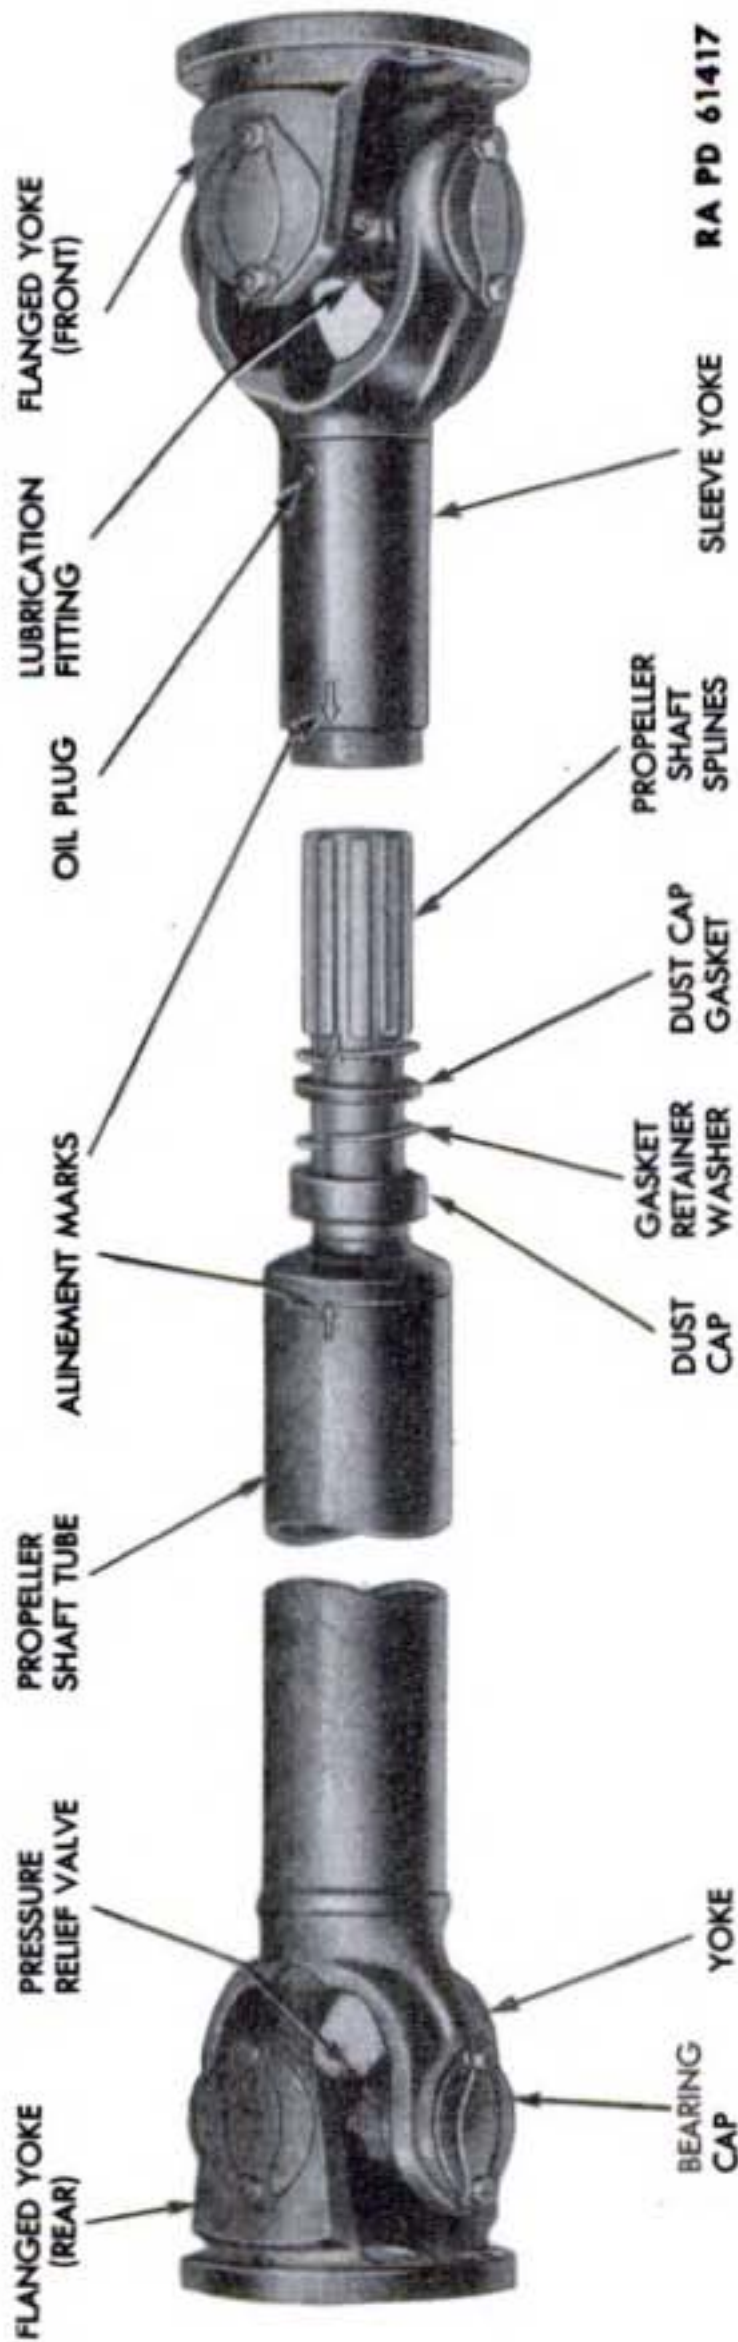
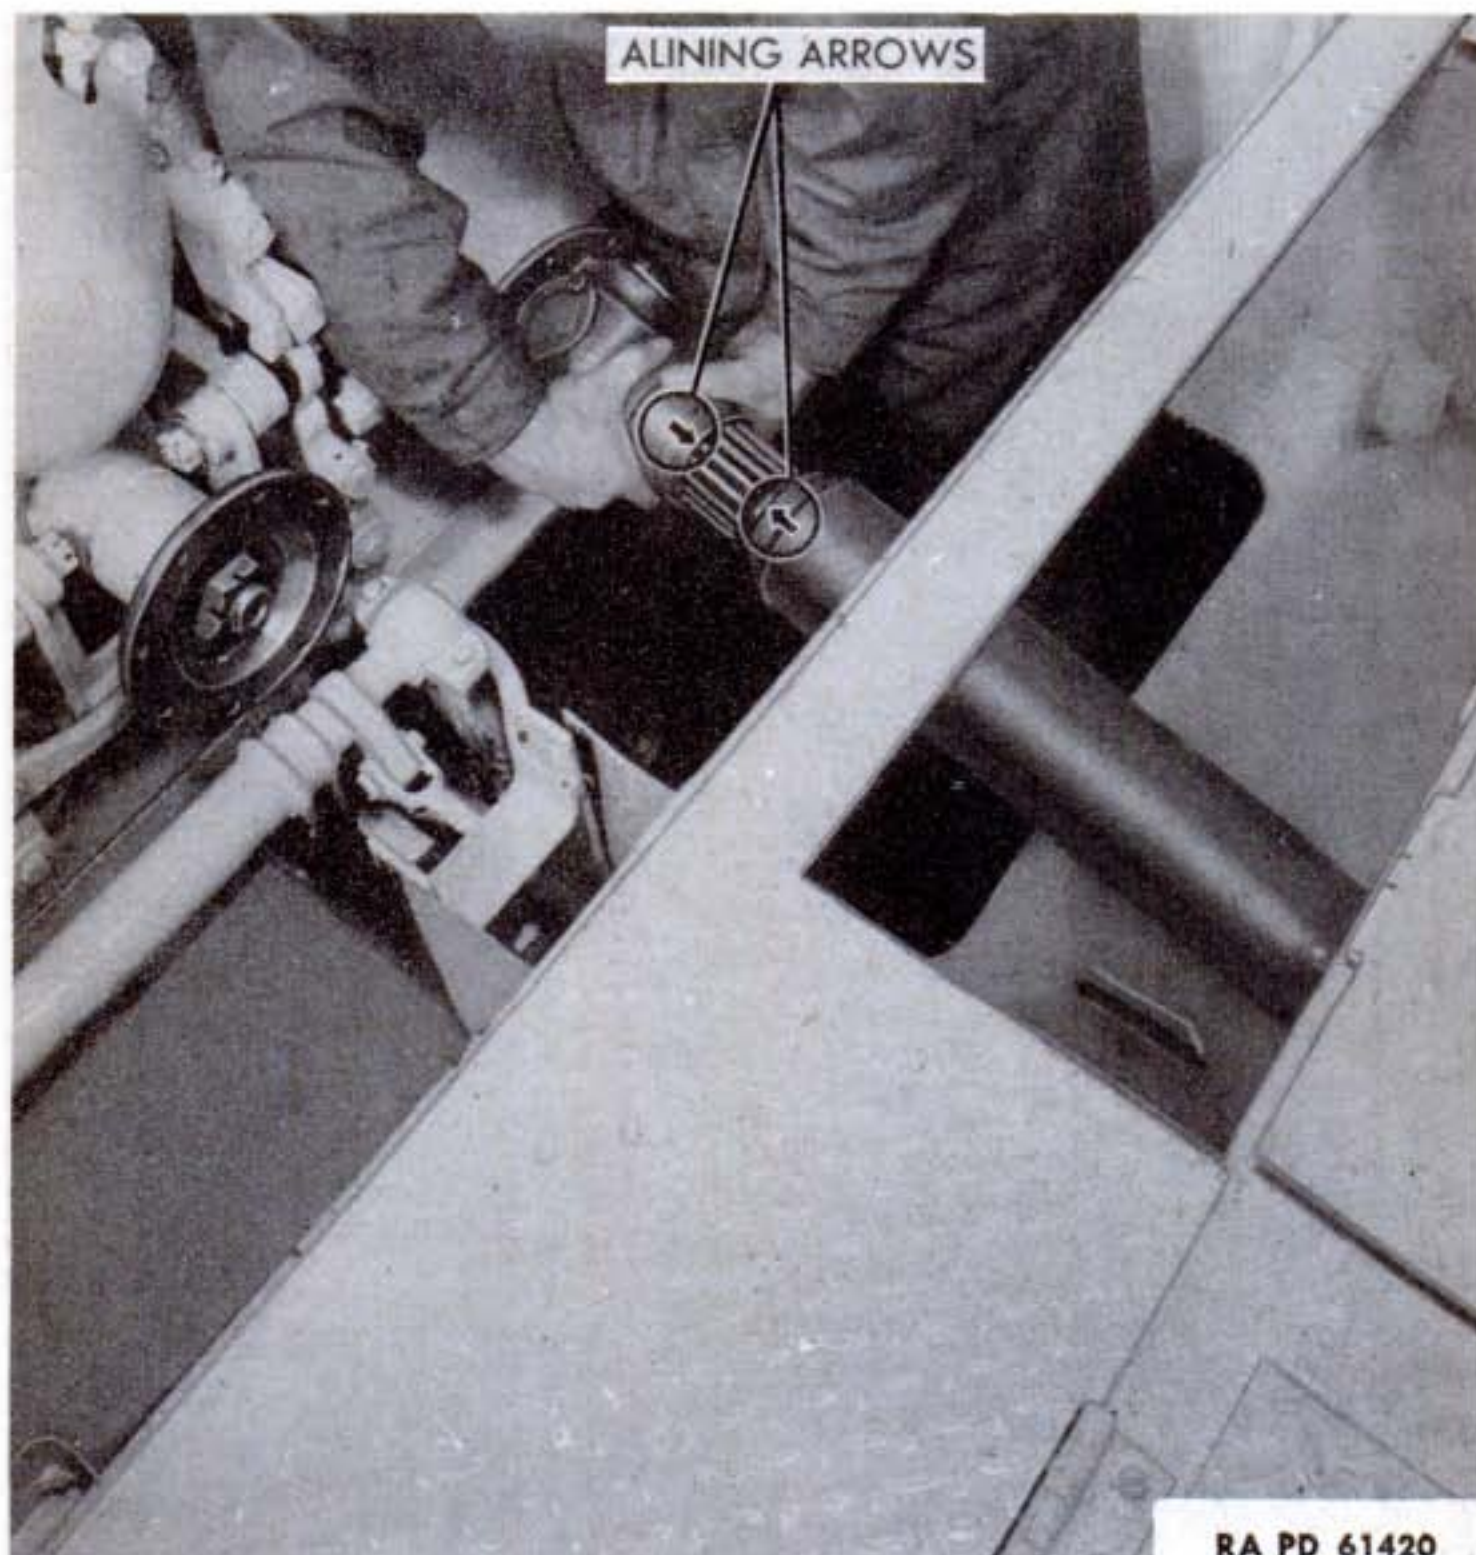
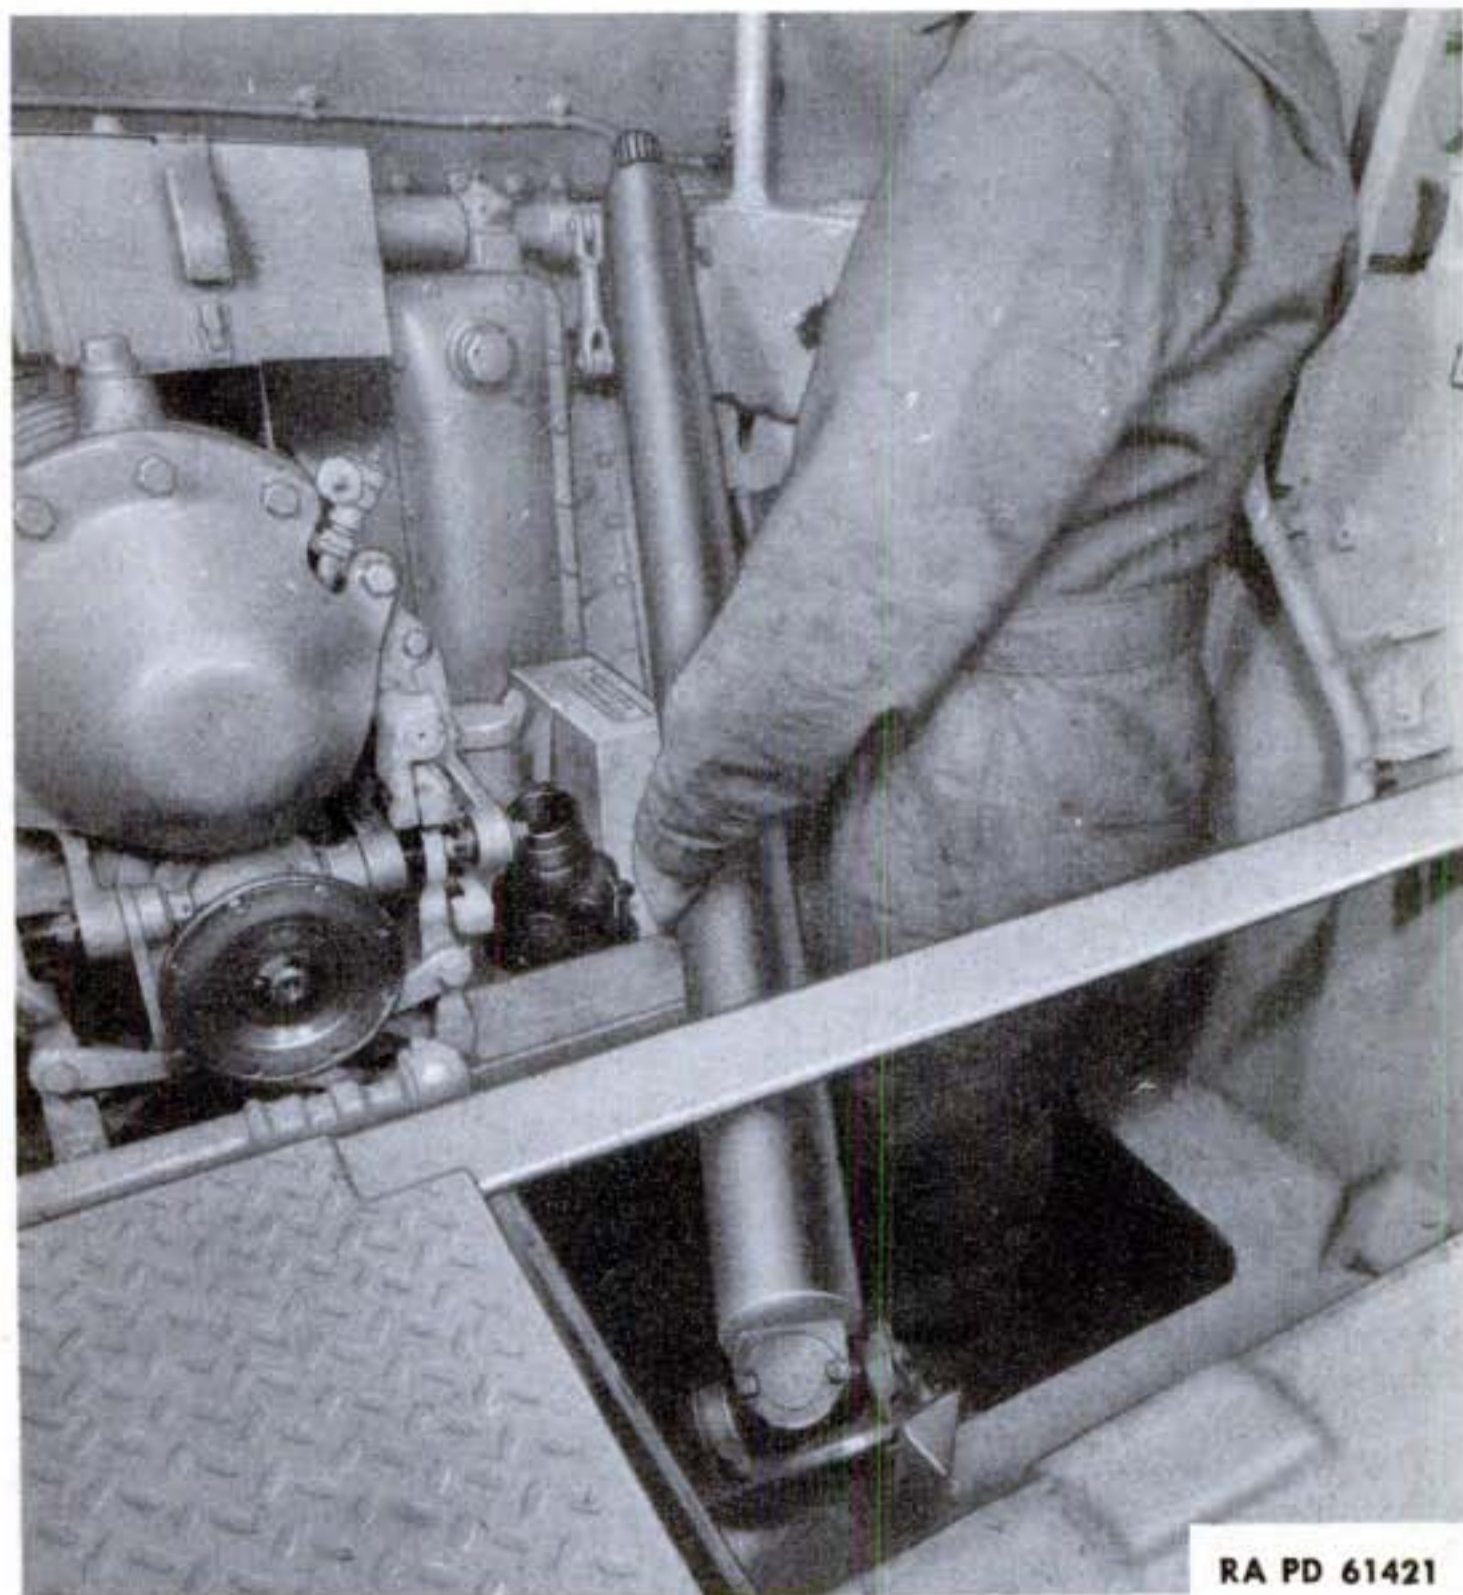
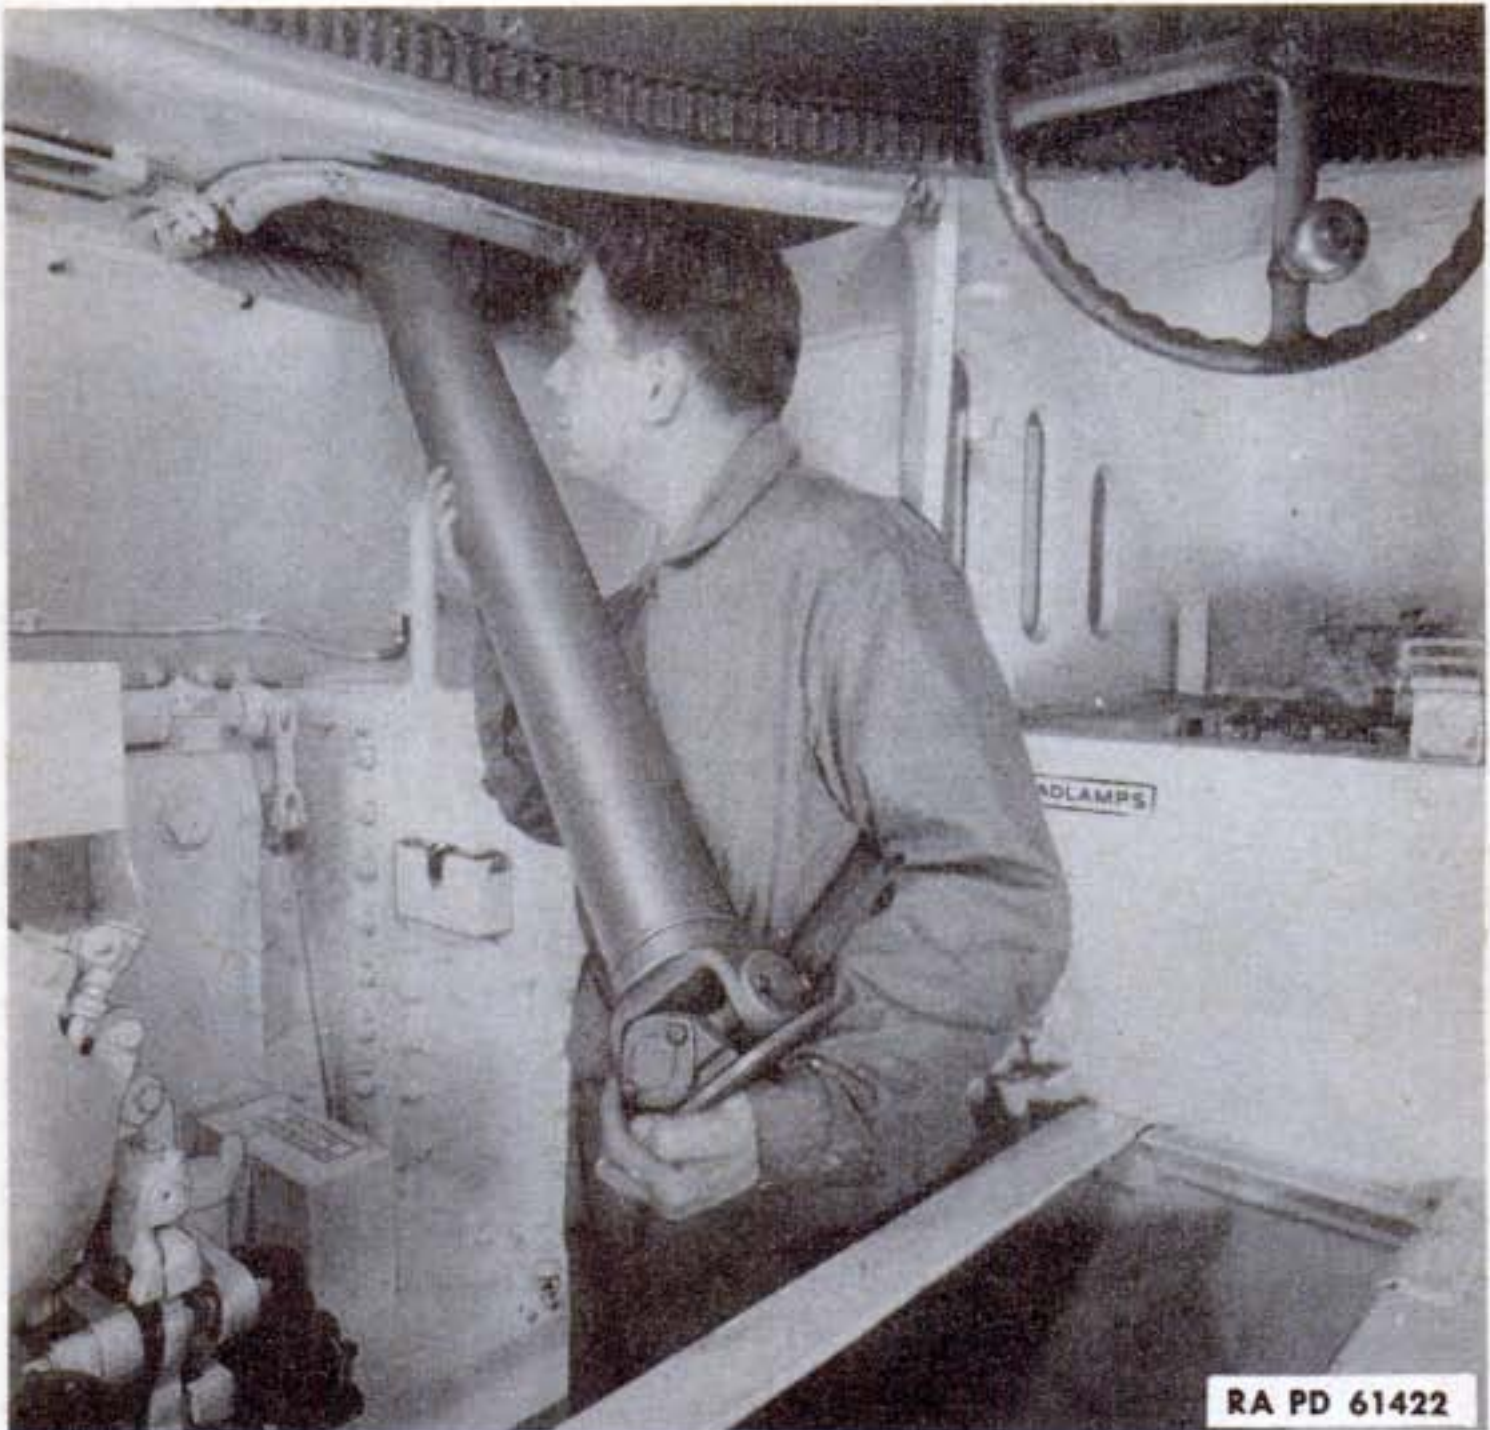

Figure 89—Propeller Shaft and Universal Joints
Figure 92—Removing Front Universal Joint from Propeller Shaft
Figure 93—Positioning Propeller Shaft to Lower it into Escape Hatch
Figure 94—Lifting Propeller Shaft Out Through Assistant Driver's Door
a. **Description.** The propeller shaft and universal joints (fig. 89) transmit the driving force from the transfer gear unit to the transmission. The front universal joint sleeve yoke (slip hub) is splined and fits onto the splines on the front end of the propeller shaft. This simplifies installation of the propeller shaft and also takes care of slight variation in distance between the transfer gear unit and transmission. The universal joints are equipped with needle roller bearings which must be lubricated (par. 122) when universal joints are installed, and at regular lubrication intervals (par. 31).
ment between trunnion and yokes (fig. 89) which indicates bearings are worn and the propeller shaft must be replaced. Also check for worn splines in sleeve yoke (slip hub). If there is no appreciable wear, tighten the universal joint flange bolts to make sure they are not loose. Shift transmission into neutral. Rotate propeller shaft by hand and inspect weld on propeller shaft tube. Lubricate universal joint and slip hub (par. 122 a). Install front universal joint cover.
rear universal joint cover. Attach grease gun hose to lubrication fitting at side of trunnion (fig. 89). Pump lubricant into joint until it starts coming out of the pressure relief valve in center at front of trunnion (fig. 89). Install rear universal joint cover and lower the door.
b. Disconnect Front Universal Joint. Lockout both clutches. Unscrew sleeve yoke dust cap (fig. 89). Unscrew nuts on front universal joint flange and remove bolts. Pull universal joint back on splines and lower the shaft onto the propeller shaft housing strap.
d. Remove Propeller Shaft from Vehicle. With one man at front and another at rear of propeller shaft, raise shaft up and over the right side plate of propeller shaft housing, and place it on hull floor. Pull front universal joint off splines on end of shaft (fig. 92). Remove periscope from assistant driver's door, and open and latch door. Move front end of propeller shaft toward right front corner of hull, raising it as shaft is being pulled forward (fig. 93). This will permit rear universal joint to clear the inner rear corner of escape hatch so shaft can be lowered through escape hatch onto ground. Lift shaft up through assistant driver's door and remove it from the vehicle (fig. 94). Slide front universal joint onto splines on propeller shaft, and screw dust cap onto sleeve yoke.
a. Place Propeller Shaft into Vehicle. Unscrew dust cap and pull front universal joint off the propeller shaft. Lower rear universal joint end of propeller shaft through assistant driver's door and down through escape hatch until it rests on the ground. Swing front end of propeller shaft into right front corner of hull. Raise shaft until rear universal joint clears rear inner corner of escape hatch so rear of shaft can be moved onto the hull floor (fig. 93). Move shaft back on floor on right side of propeller shaft so that front universal joint can be positioned on shaft (fig. 92). Rotate the shaft so that alining arrow on front end of propeller shaft tube is up. Make sure that dust cap, retainer washer, gasket and another retainer washer are placed on the propeller shaft in this exact order and that the cork gasket is serviceable (fig. 89). Position the front universal joint on the propeller shaft splines so that the arrow on rear of the sleeve yoke (slip hub) is in line with arrow on shaft, and slide joint back onto splines (fig. 92). Slide gasket and retainers against sleeve yoke, and screw dust cap onto sleeve yoke and tighten. With one man at front and another at rear of propeller shaft, lift it up and over the right plate on propeller shaft housing.